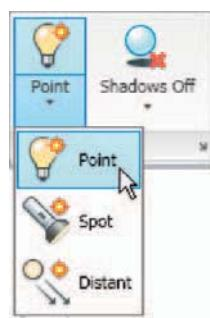
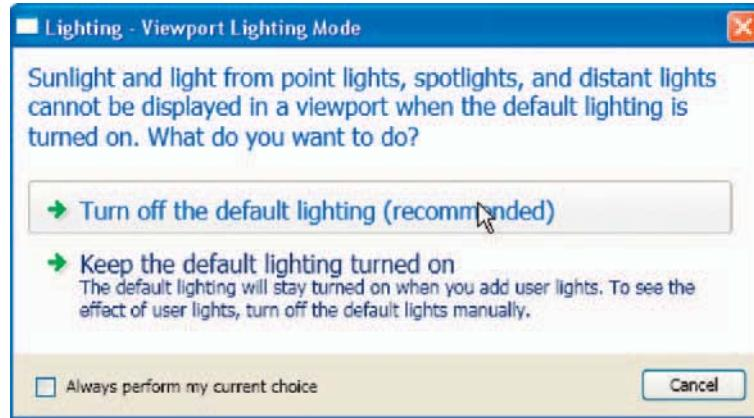

Fig. 15.27 The Point Light icon in the Render/Lights panel
Fig. 15.28 The Lighting – Viewport Lighting Mode warning window
3. *Click the **Point Light** tool icon in the **Render/Lights** panel (Fig. 15.27). The warning window Fig. 15.28 appears. Click **Turn off Default Lighting** in the window.*